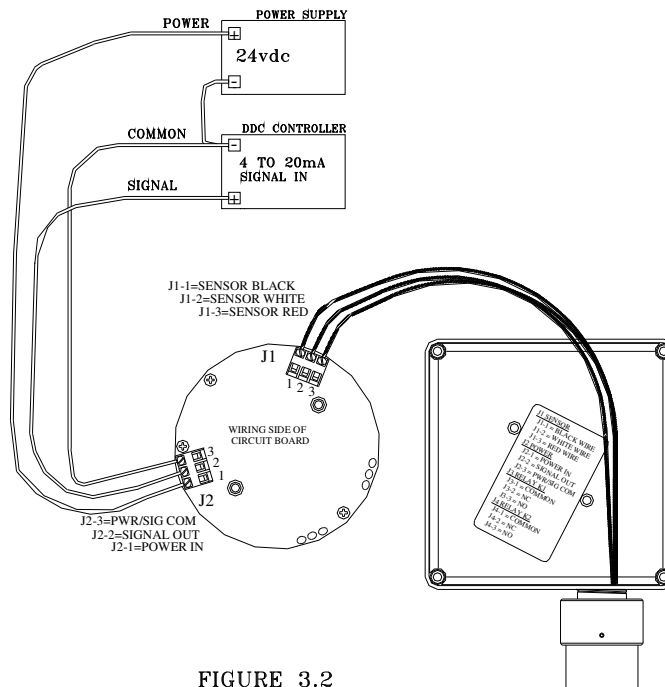

FIGURE 3.2
1. Remove the sensor electronics (figure 3.2) from the module enclosure by:
3. Connect the three (3) wires which run from the controller to the three position terminal strip, J2, on the bottom of the electronics assembly. See figure 3.2. A label glued in the bottom of the sensor housing also indicates which terminal strip is J1 and J2. The label also indicates terminal numbering and identifies which wire goes where. Also reference figure 3.2 in this manual.
4. Reconnect the sensing element leads to the sensor connector on the top of the electronic assembly terminal strip, J1, and connect the green ground wire to the lug located at the back of the inside enclosure. Figure 3.2.